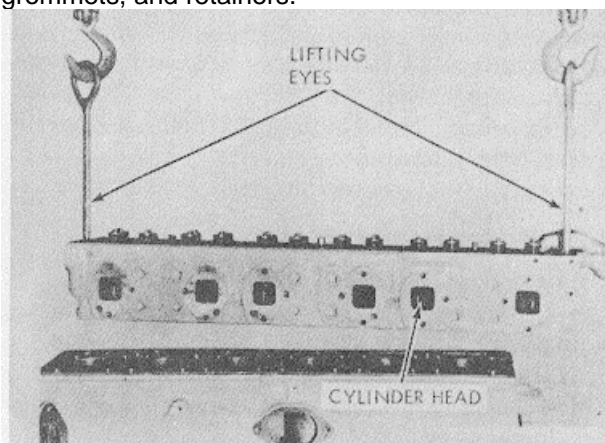

Figure 3-118. Cylinder head removal
- (1) Remove fuel inlet and drain manifolds (TM 5-3810-289-12).
- (2) Remove air intake and exhaust manifolds (TM 54810-289-12).
- (3) Remove thermostat and thermostat housing (TM 5-3810-289-12).
- (4) Remove alternator assembly (TM 5-3810-289-12).
- (5) Remove fuel injectors (para 3-13).
- (6) Remove cylinder head cover and rocker arm assembly (para 3-39).
- (7) Remove push rods (para 3-30).
- (8) Remove valve crossheads and guides (para 3-47).
- (9) Attach ST-756 Lifting fixture to cylinder head. Using a suitable hoist, lift head from block (fig. 3-118).
- (10) Remove and discard head gasket, grommets, and retainers.